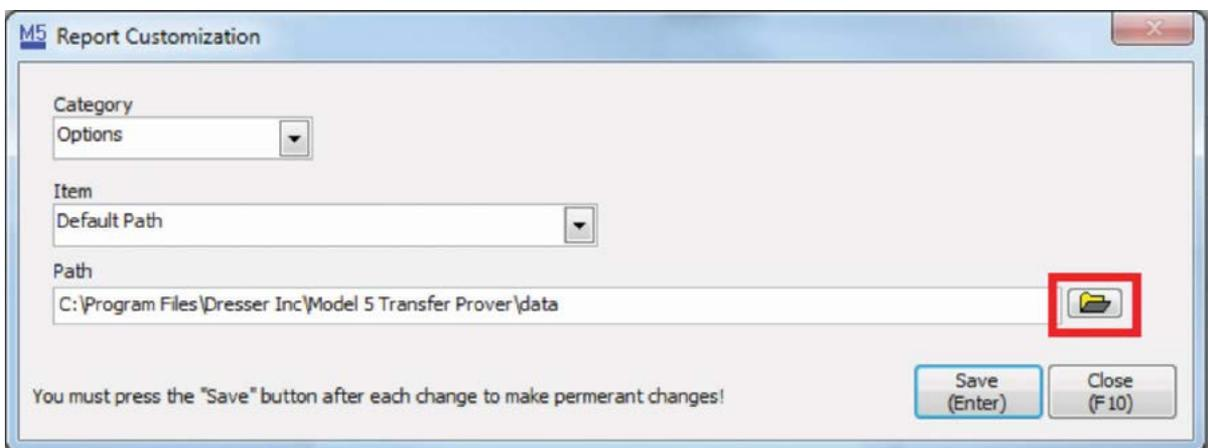

Figure 109: Change Path Selection
3. The "Report Customization" window will open. The current default path is displayed. To change, select the file folder button to the right. See **Figure 109**.